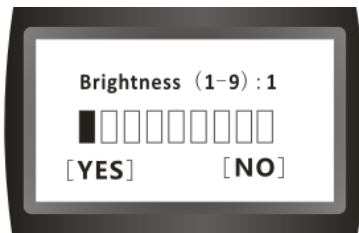

Figure 9
- 6、 Press  button, the screen will change to: (Figure 9)